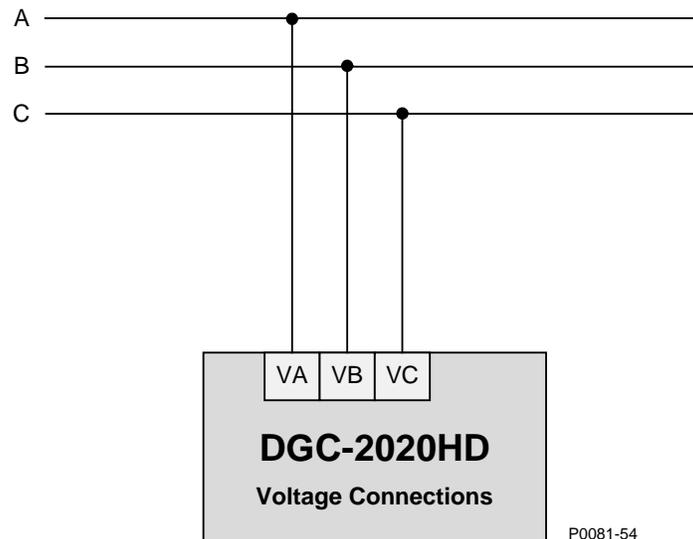

Figure 7. 3-Phase Delta Connections
- Three-phase delta..... Figure 7
Figure 7 illustrates typical three-phase delta connections for all DGC-2020HD bus voltage sensing connections: Generator, Bus 1, and Bus 2. Use the terminal numbers listed below for connecting the desired bus type. Refer to the *Terminals and Connectors* chapter for rear panel terminal numbering.